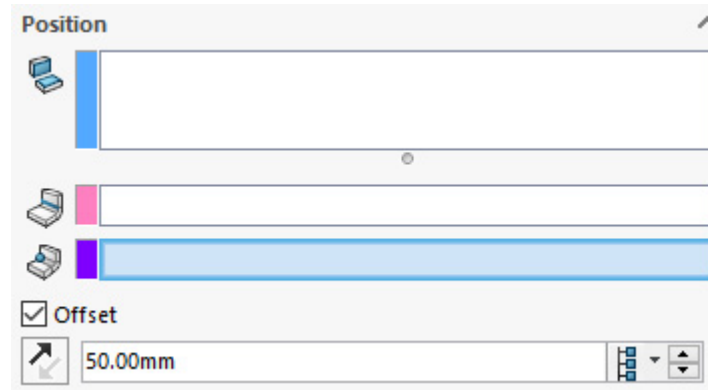

Figure 6.3: Sheet Metal Gusset properties – the Gusset's position
5. Hover over the **Supporting faces** box (color-coded in light blue) at the top of the Property Manager (*Figure 6.3*). You will be shown a message stating **Select a bend face or two flat faces**.
The **Reference line** of our **Gusset** is the next box down (*Figure 6.3*) and is color-coded in pink (note the pink line on the model in the Graphics Area). This will automatically be filled by the edge of the selected bend. This means that, by default, our **Gusset** will be perpendicular to the bend. However, if required, it is possible to sketch a reference line (before creating the **Gusset** feature) that can be used in this box to make a **Gusset** that is at a different angle to the bend.
**Reference point** is the next box down (*Figure 6.3*) and is color-coded in purple (note the purple *point* on the model in the Graphics Area). This *point* determines where our **Gusset** will be placed along the **Reference line**.